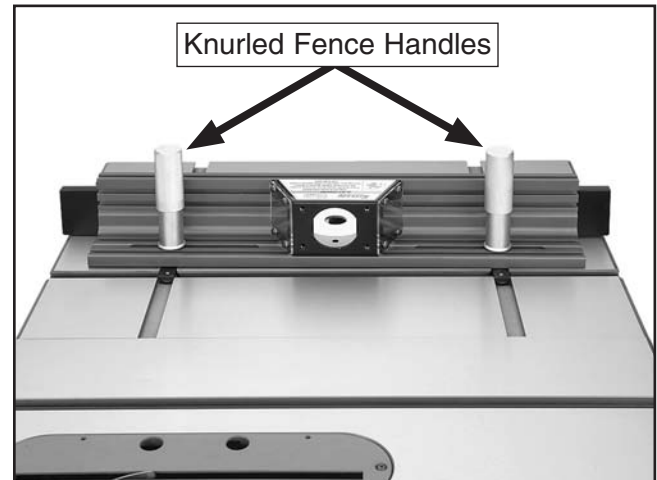

Figure 14. Knurled fence handles installed.
10. Place the fence assembly over the studs of the T-slot bars, then secure the fence in place by threading the knurled handles onto the studs, as shown in **Figure 14**.